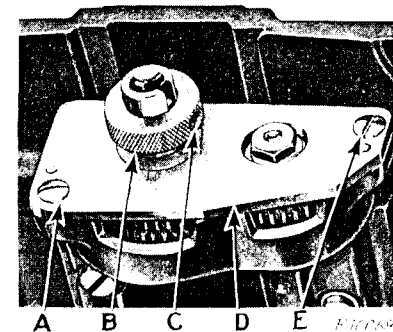
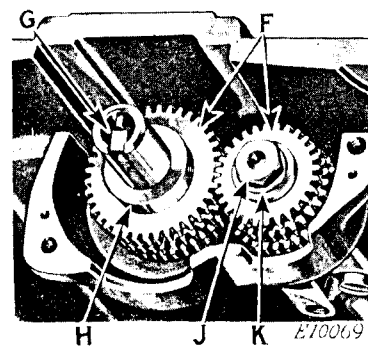
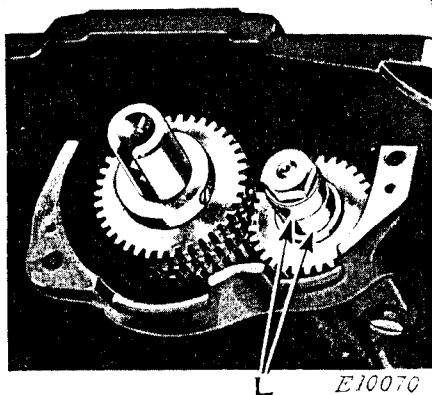

Fig. 13. Adjustment for Changing Length of Stitch
Fig. 14. Stitch Regulating Gears
Fig. 15. Showing Spacing Washers in Position in Machine
The three pairs of feed gears are located at the left underneath the bed of the machine, each pair of gears making a different length of stitch. The location of the knurled collar (B, Fig. 13) on its shaft determines which pair of gears is engaged. When the knurled collar (B) is at the outer end of its shaft, the outermost pair of gears (F, Fig. 14) is engaged. When the knurled collar (B) is in the central position on its shaft, the middle pair of gears is engaged. When the knurled collar (B) is set at
To change the length of stitch, raise the roller presser, then slide the knurled collar (B) to the desired position on the shaft and turn it in either direction until the engaging latch (G, Fig. 14) enters the notch in the gear.
When it is desired to limit the machine to making but one or two lengths of stitches, the spacing washers (L, Fig. 15) should be substituted for the feed driving pinions as instructed below:
Loosen the set screw (C, Fig. 13) and remove the knurled collar (B, Fig. 13). Take out the two screws (A and E, Fig. 13) and remove the cover plate (D, Fig. 13). Then loosen the set screw and remove the collar (H, Fig. 14), engaging latch (G, Fig. 14), nut (J, Fig. 14) and washer (K, Fig. 14).
When replacing the gears, place the medium size gear on the shaft and the largest of the gears on the outside, at the same time replacing the pinion for making the desired length of stitch so that it meshes with its corresponding gear and setting the spacing washers (L, Fig. 15) opposite the gears which are to be disengaged. Then replace the engaging latch (G, Fig. 14), collar (H, Fig. 14) and washer (K, Fig. 14) and securely tighten the nut (J, Fig. 14). Replace the cover plate (D, Fig. 13) at the left of the gears, also replace the knurled collar (B, Fig. 13) and tighten the set screw (C, Fig. 13).